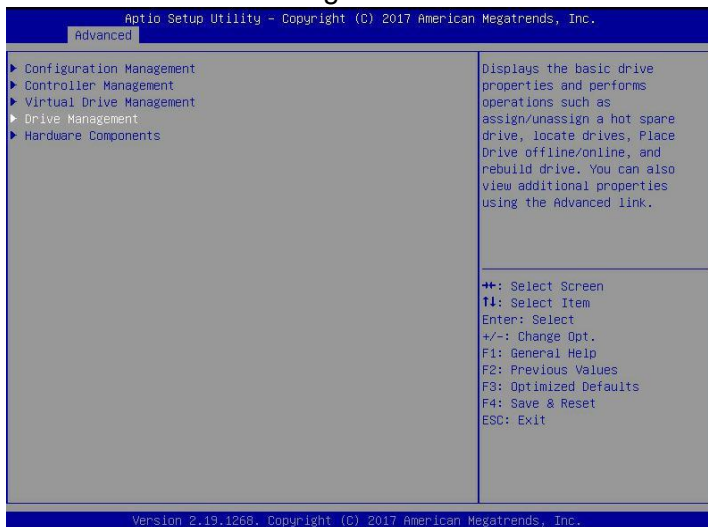

Figure 6-71
a) As shown in Figure 6-71, select Drive Management on the RAID card configuration interface and press Enter.
✧ Figure 6-71 RAID card configuration interface